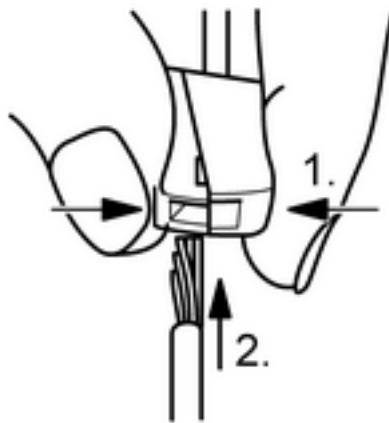

Figure 9: Connection of the fine-wire cable
- Push the terminal together on the side with the square opening and connect a fine-wire cable (Figure 9).